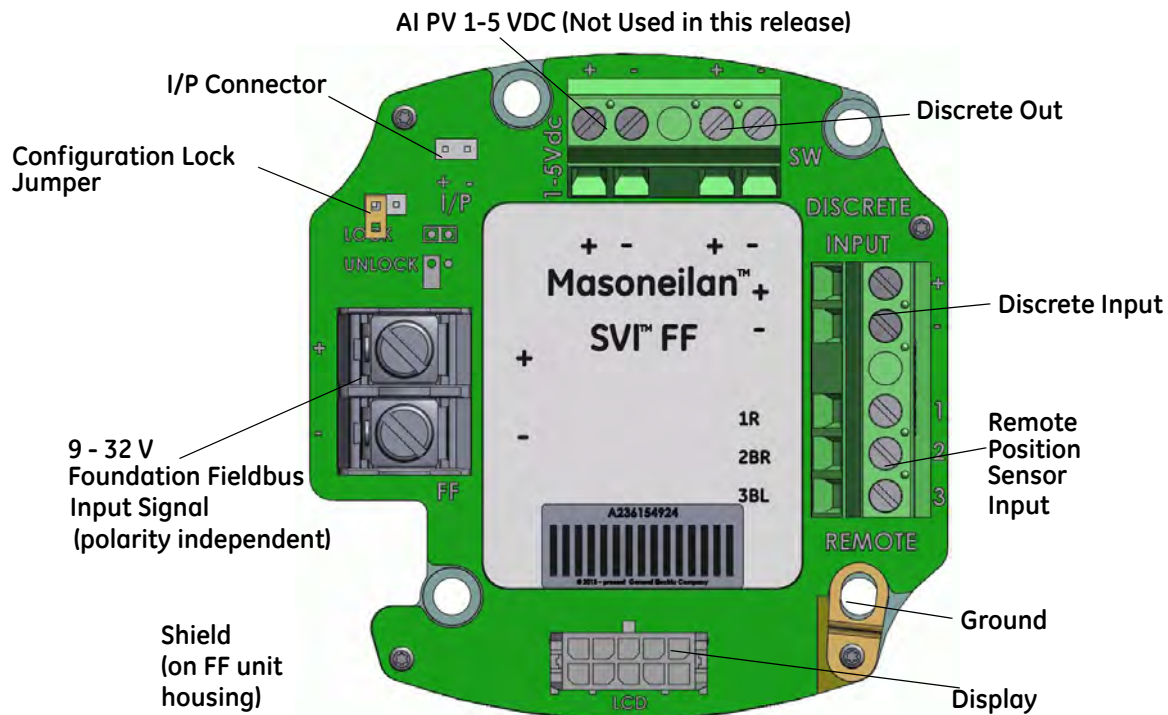

Figure 33 Connections to Electronics Module (via Terminal Board)
2. Locate the correct terminal block on the terminal board (see Figure 33).